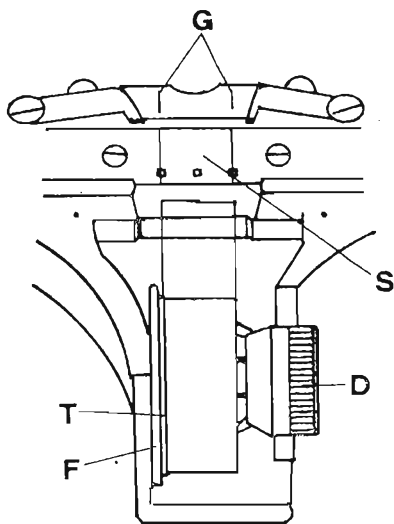

fig. 1
1) that the adhesive tape (S, fig. 1) — three or four superimposed layers — is applied to the matrix. It ensures that the little rectangles cut off by the perforators remain under the matrix and do not turn over sticking to the film.
2) that the adhesive tape is accurately centred within the guide - lines marked on bridge (G). The tape spacer ring (T) is suitable for the frame-line (15,3 mm wide) tape supplied with the splicer.
- remove the adhesive tape layers (S, fig. 1) from matrix-centre, but **DO NOT** clean the little rectangles of adhesive tape cut off by the perforator, from the matrix-holes.